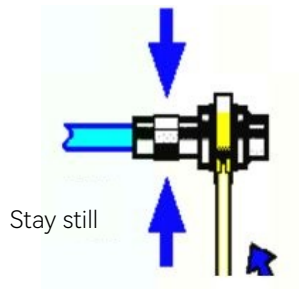

Fig.3.3 Finishing the connection with a torque wrench
Step 3: as shown in Fig.3.3, tighten the connectors with a torque wrench to complete the connection. Pay attention that the torque wrench should not exceed the initial folding point. Use an auxiliary wrench to prevent the connector from rotating.